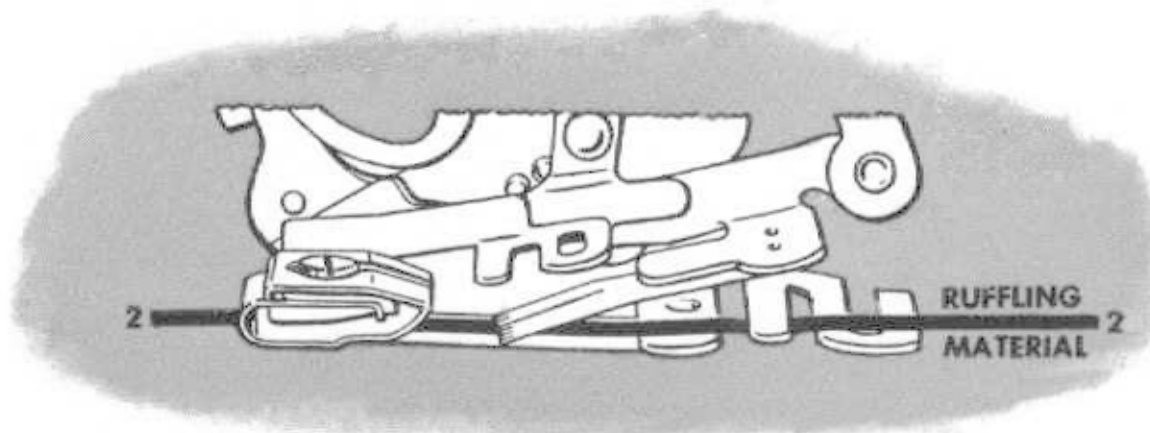

Fig. 63. Correct Position for Material to be Ruffled
3. Insert material to be ruffled between two blue blades and under separator guide (**Line 2, Fig. 63**).